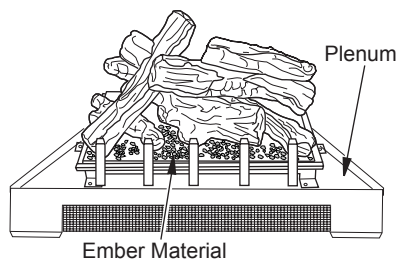

Figure 42 - Placing Ember Material on Burner
1. Pull ember material apart into pieces no larger than a dime. Place these pieces loosely and sparingly directly onto exposed front section of burner (see Figure 42). This will create the glowing ember appearance as flame touches ember material. Do not block air slots by using too much ember material in one area. Place small pieces of ember material to cover pilot ports. It is not necessary to use all of the ember material provided.